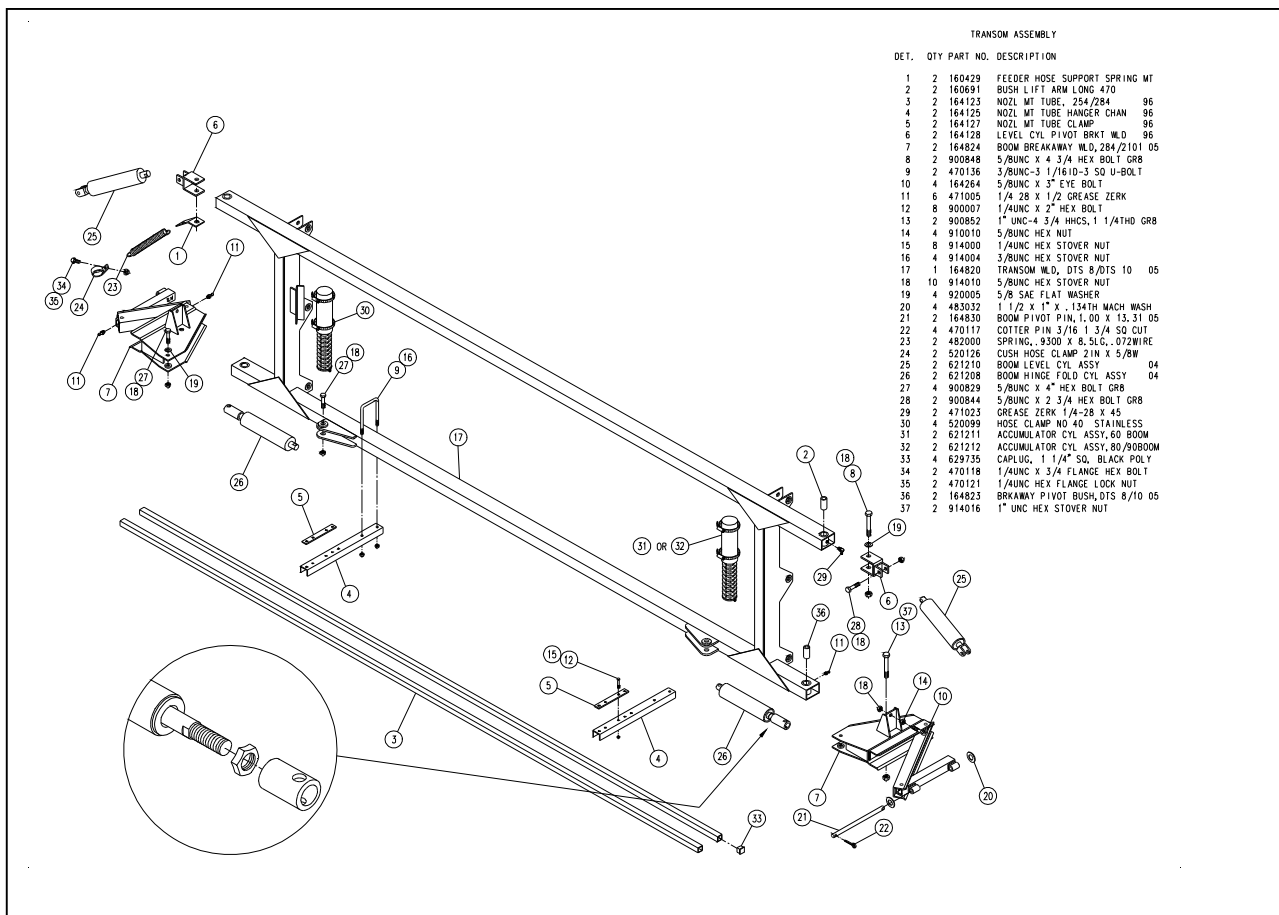

FIG 4.6
1. Install the transom weldment (fig. 4.6, item 17).